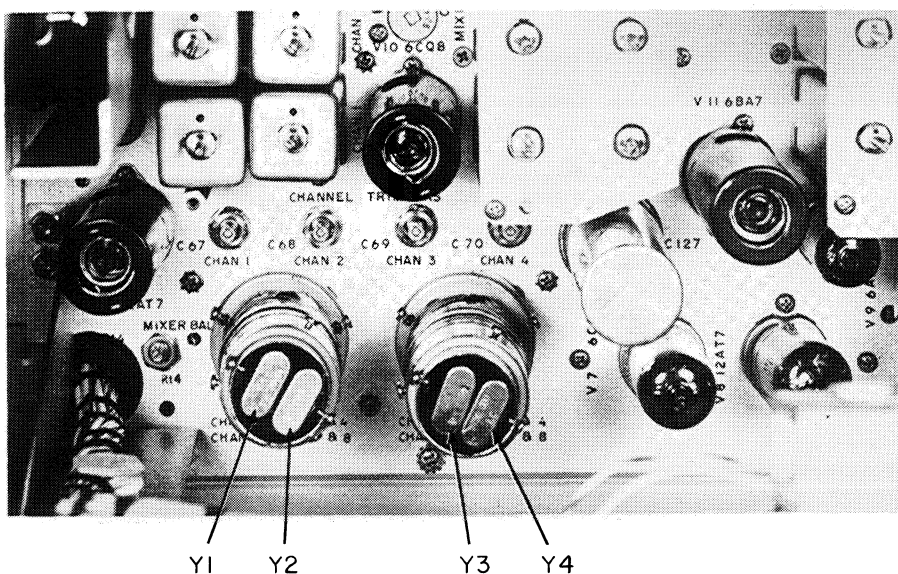

Figure 2-2. Channel Injection Crystal Positions
a. Insert desired channel crystals into channel-crystal ovens, HR2 and HR3. Figure 2-2 is a partial photograph of the 32RS-1 chassis indicating possible crystal positions. Channel crystals are located according to oven pins as follows: